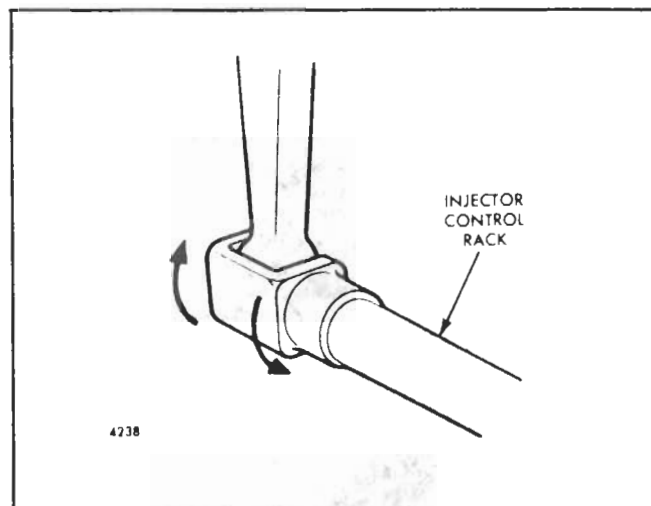
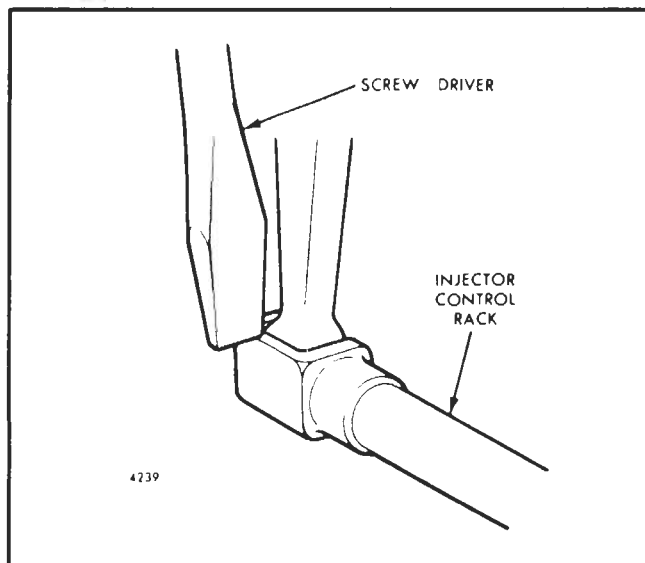

Fig. 5 - Checking Rotating Movement of Injector Control Rack
Fig. 6 - Checking Injector Control Rack "Spring"
5. To be sure of the proper rack adjustment, hold the stop lever in the RUN position and press down on the injector rack with a screw driver or finger tip and note the "rotating" movement of the injector control rack (Fig. 5) when the stop lever is in the run position. Hold the stop lever in the run position and, using a screw driver, press downward on the injector control rack. The rack should tilt downward (Fig. 6) and,